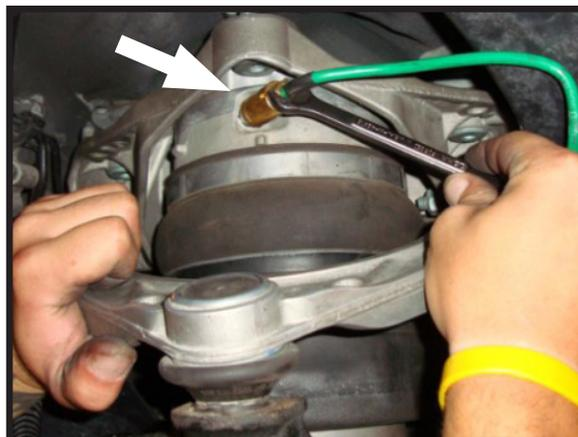

FIGURE 10-1
4. REMOVE AIR LINE FITTING FROM THE AIR VALVE. REMOVE THE AIR LINE FITTING FROM THE AIR LINE AND DISCARD. (FIGURE 10-1)